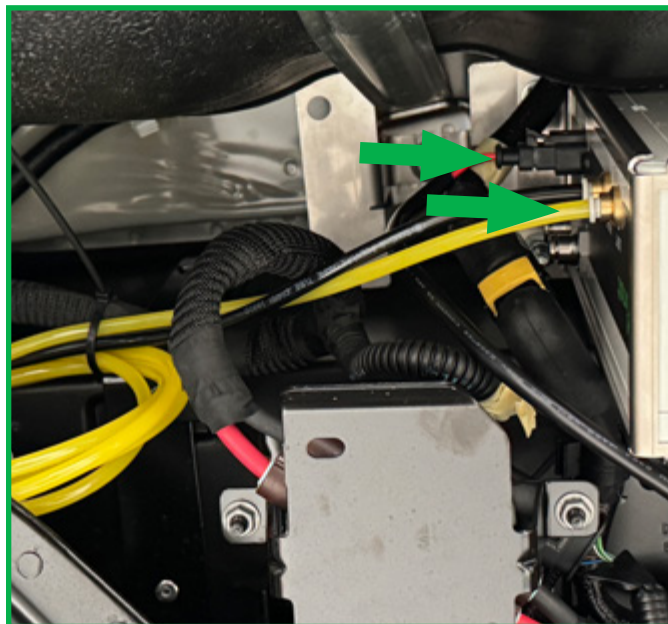

FIGURE 10
11. Connect the air tubes and power supply. Route the power supply cable from the connected box to the inside of the OE battery case. Connect ground (black wire) to – pole of the battery, connect power with the fuse holder to + pole of the battery. After both power supply wires are connected to the battery poles, insert the provided fuse. (Figure 10)